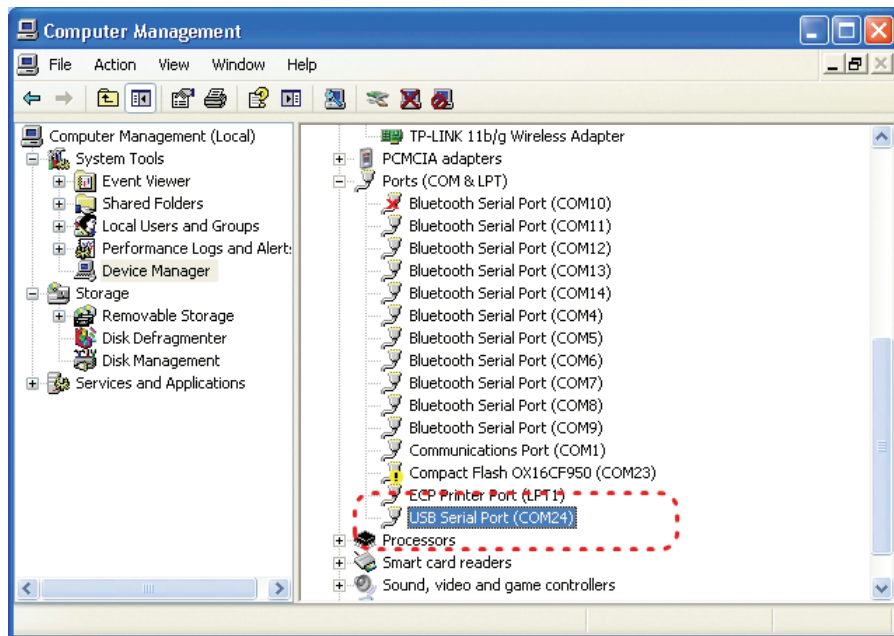

Figure 2.
If using a USB Adapter, the list of ports will be updated to reflect the new device. The LA GARD USB Interface Adapter can be identified in the list as **USB Serial Adapter**. The virtual COM Port assigned to the USB port where the Adapter is currently installed will follow the device description (Figure 2).
- If the COM port has been incorrectly set, return to the setup window (Figure 2), and reset the COM port to the correct one.